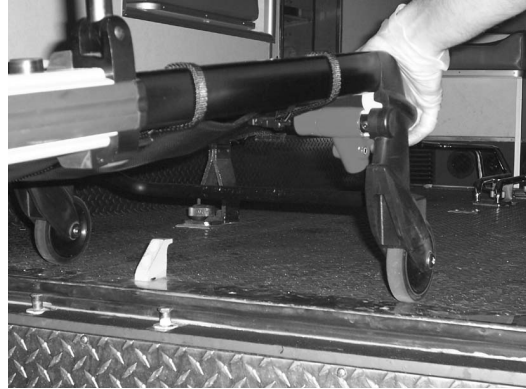

Figure 22: Disengaging the Safety Bar
- Operator 2** – Pull the safety bar release lever forward to disengage the safety bar from the safety hook in the patient compartment as shown in Figure 22.